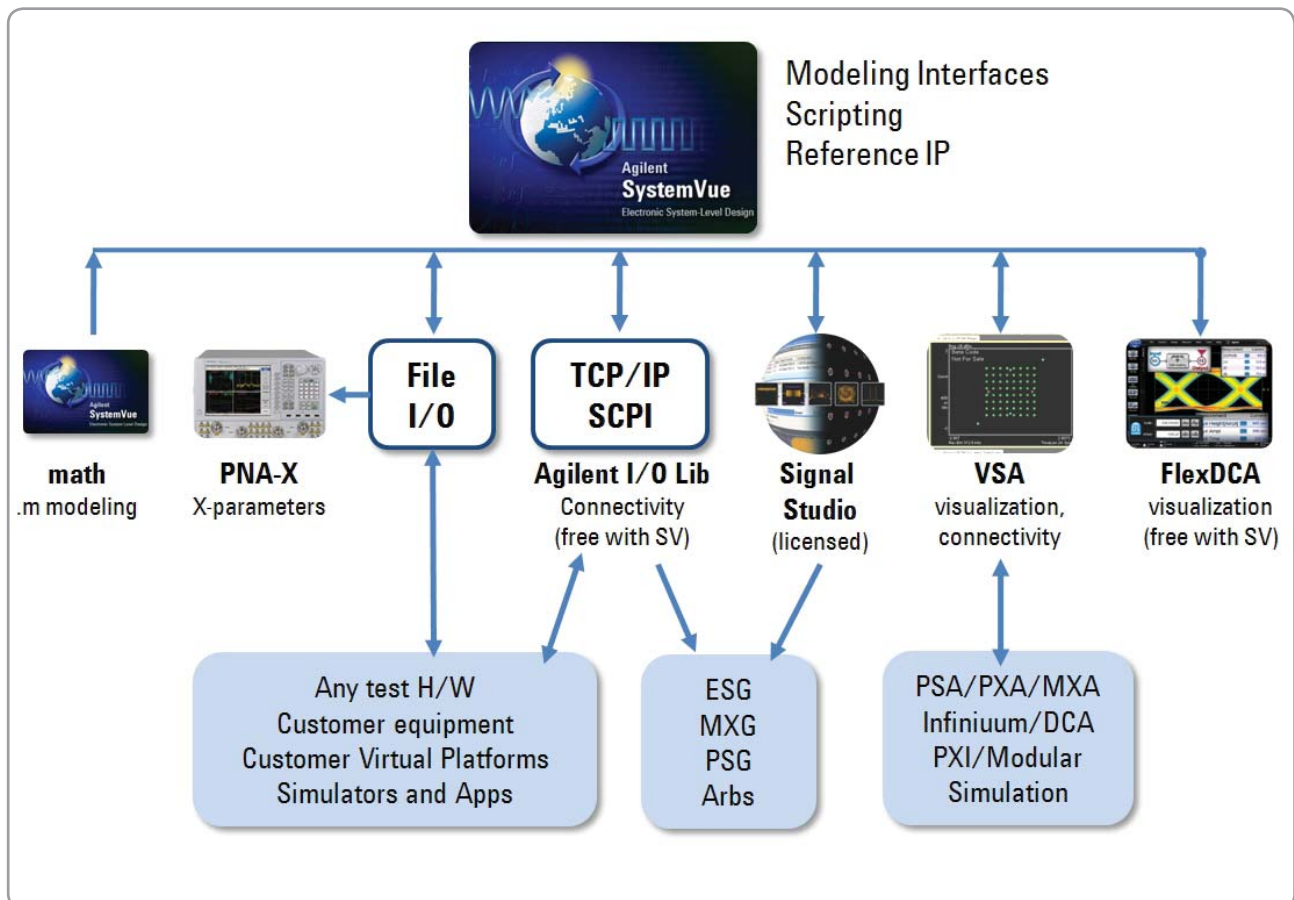

Figure 4. Shown here are ways that SystemVue connects algorithms to the outside world.
- the connected signal analysis capability between SystemVue and Agilent's families of signal analyzers, greatly leveraging the Agilent 89600 VSA software (Figure 4).